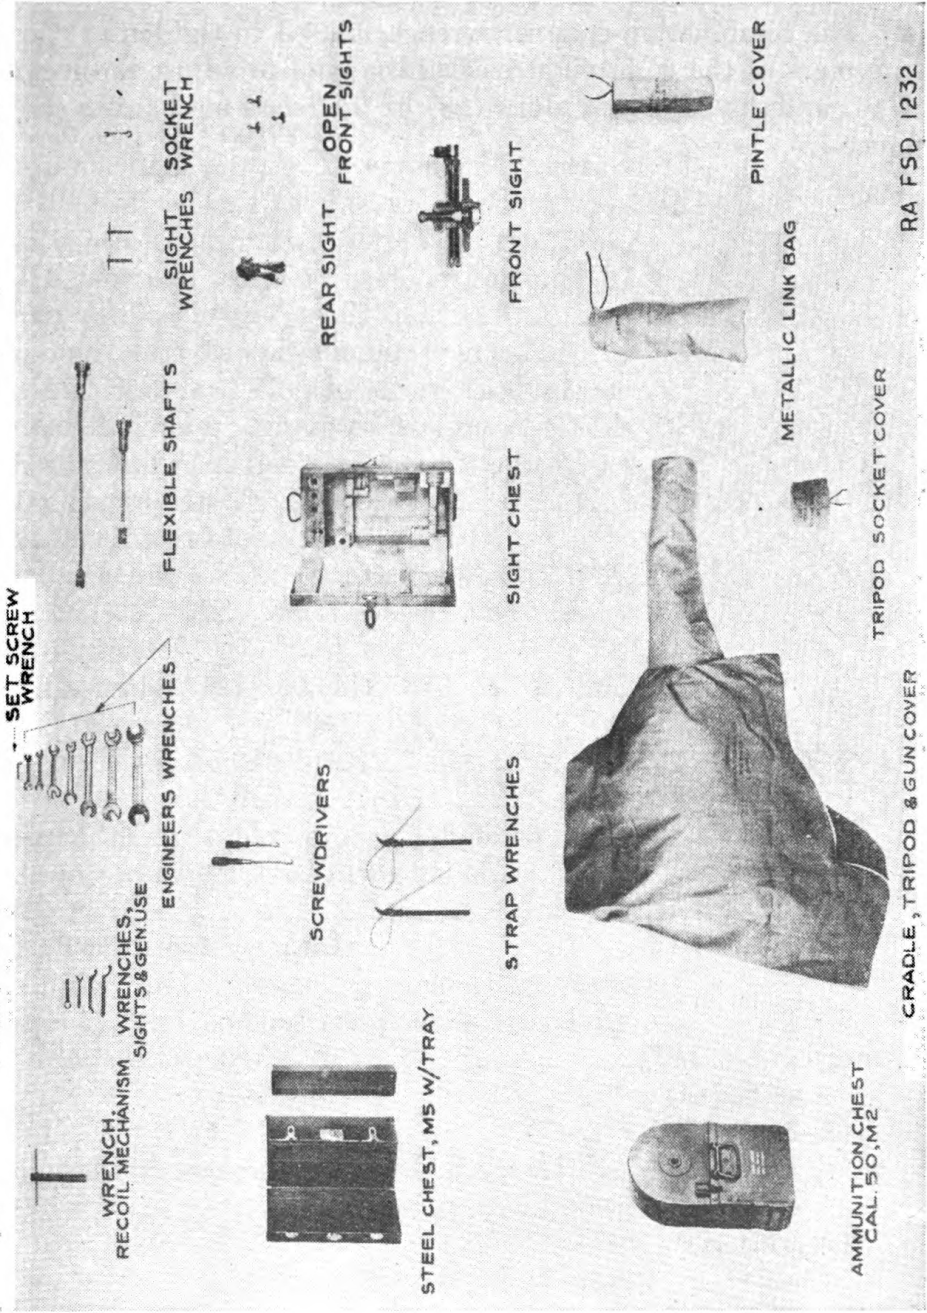

FIGURE 35.—Accessories for antiaircraft machine-gun mount, caliber .50, M2.
(3) *Chest, sight.*—The sight chest (fig. 35) is for protection and storage of the sighting equipment, including the two front sight wrenches.
(4) *Wrench, adjusting, recoil spring.*—This wrench (fig. 35) consists of a tubular body with a handle at one end and two lugs at the other end. It is inserted in the bearing (7) of the recoil mechanism and fitted into the slots of the adjusting plug (nut) (13), shown in figure 7. Thereby the adjusting plug (nut) (13) may be turned in either direction until the proper adjustment of the spring (8) is obtained.
(5) *Wrenches, spanner* (fig. 35).—(a) The flat key type spanner wrench has a circular end and is used to turn the adjusting plug (15) shown in figure 7 until the proper adjustment of spring (11) is obtained.